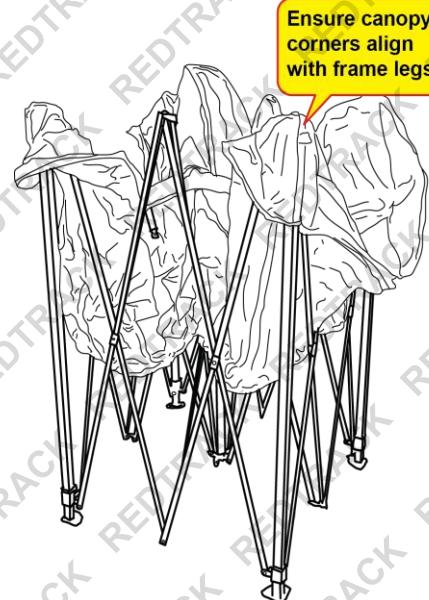

Fig 1 – Unassembled Gazebo with Canopy on Frame
2. Carefully place the gazebo canopy over the frame so that the centre and corners are lined up with the frame (Fig 1). For larger model gazebos, spread the gazebo frame (see step 4) close to full size before placing the canopy over it.